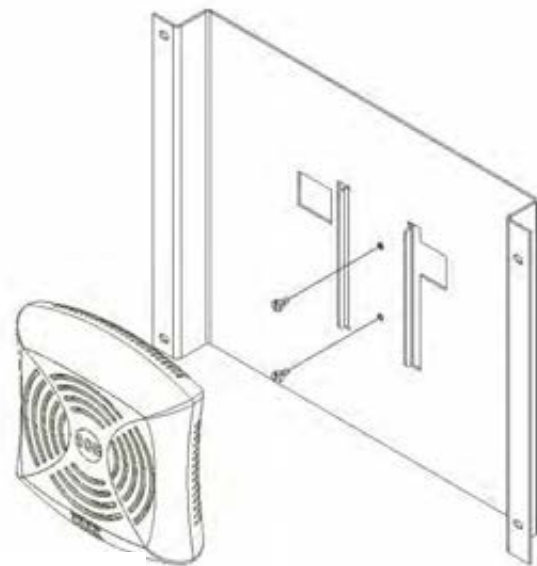

Figure 1
Step 1 – Install the (2) # 4-40 shoulder screws into the mounting plate. Orient the access point so that the locking keyway slots on the back line up with the shoulder screws and the access point is centered on the bracket. Attach the access point by sliding it over the shoulder screws (Figure 1).